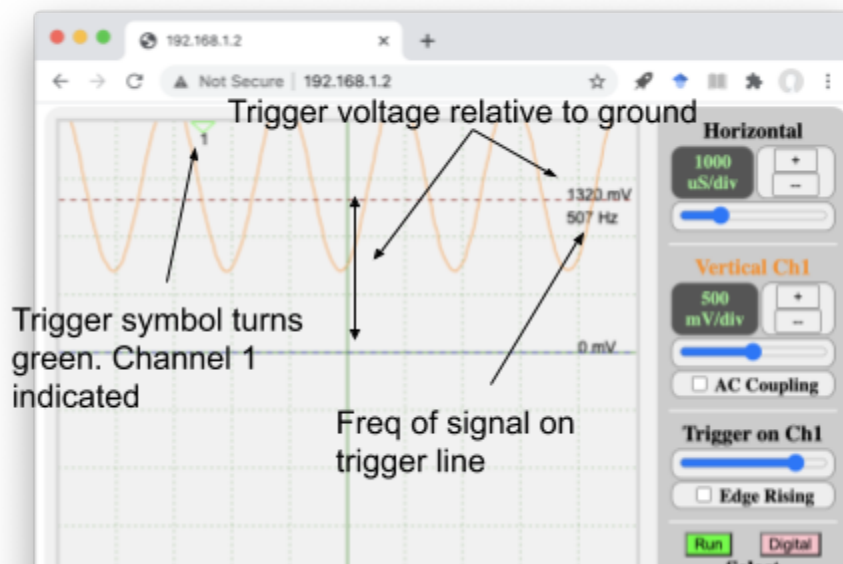

Figure 7: Sine wave triggered. Measurements from trigger line include the measured frequency and the voltage level of the trigger line.
- 3) Adjust the trigger such that the line crosses the sine wave. You should see the sine wave stop moving (mostly). Figure 7 shows what it should look like. As you move the line, you should see the voltage number change next to the trigger. This indicates the voltage above the ground line.